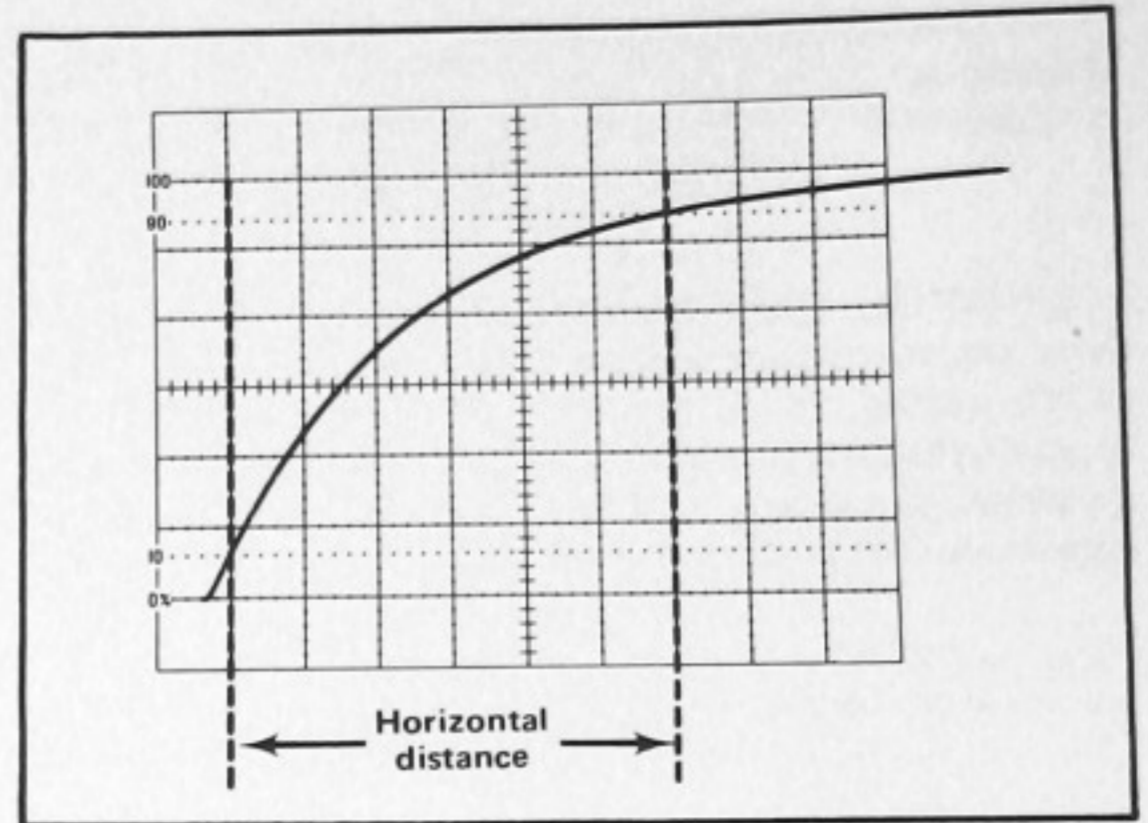

Fig. 2-10. Measuring risetime.
7. Adjust the horizontal POSITION control to move the 10% point of the waveform to the second vertical line of the graticule (see Fig. 2-10).
EXAMPLE. Assume that the horizontal distance between the 10% and 90% points is six divisions (see Fig. 2-10) and the TIME/DIV switch is set to 1 μs.